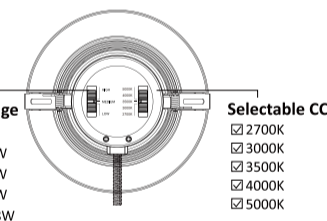

Fig2
**Step 2:** Choose desired CCT & Wattage by simply switching the switch, see Fig2.